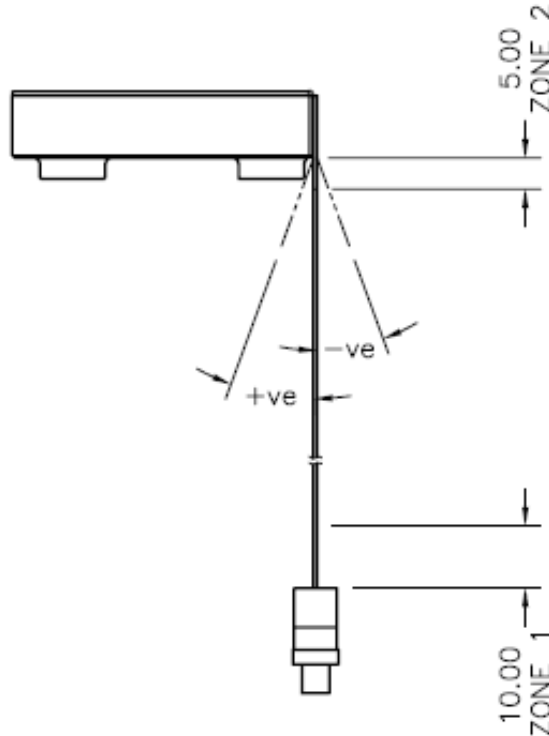

Figure 4: Flexi PCB zones for bend specifications as per section 5.
5.1 The bend radius of the flexi PCB is recommended to be no less than 10 mm, with an absolute minimum of 5.8 mm. There should be no forced bending within 10mm of the connector potting (zone 1 in Figure 4). There should be no forced bending of the flexi in the negative direction within 5 mm of the flexi to package bondline (zone 2).